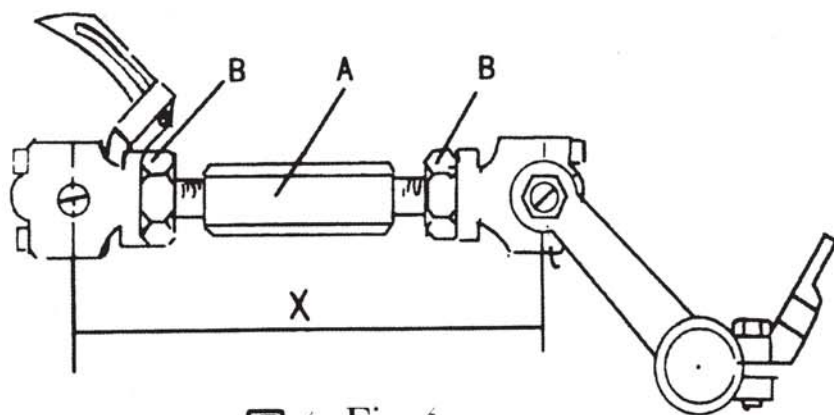
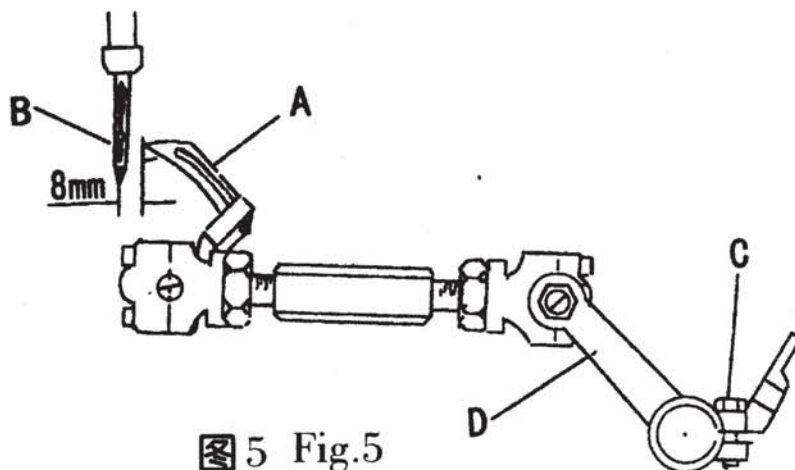
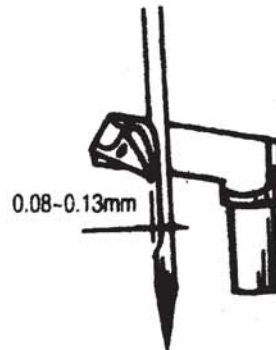
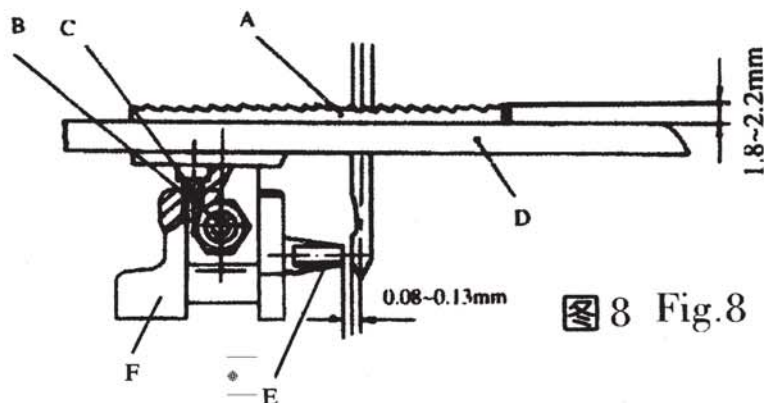

图 4 Fig.4
图 5 Fig.5
图6 Fig.6
图 8 Fig.8
(一) 首先调节连接杆 (图 4, A), 使两球轴承(X)中心线间距为69.8毫米($2\frac{3}{4}$ 英寸), 调节时拧松二个螺母 (B), 顺旋或倒旋连接杆(A)使 (X) 距离符合要求后再锁紧螺母。
(1). First set the looper connecting rod(A, Fig. 4), so the distance (X, Fig. 4) between the centerlines of the two ball joints is 69.8mm($1\frac{3}{4}$ in.). For adjustment loosen the two nuts(B) and turn connecting rod (A) forward or backward as required to obtain specified dimension. Retighten nuts(B). Caution: The left nut has a left hand thread.
(二) 用手顺时针方向旋转皮带轮, 使针杆下移至最低点, 同时弯针退至最右边位置, 此时弯针 (图5, A) 尖和机针(B) 的中心线距离为8毫米 ($5/16$ 英寸)。调节时拧松弯针外曲柄的两只螺钉 (C), 左右转动弯针外曲柄 (D), 调节至需要的尺寸后再拧紧螺钉 (C)。
(2). Rotate the machine pulley clockwise by hand, so that the needle bar moves to the lowest point, at the same time the looper moves back to its farthest position to the right. The distance from the point of the looper (A, Fig. 5) to the centerline of the needle is 8mm($5/16$ in.). For adjustment, loosen two screws(C) in the looper drive lever, rotate looper drive lever(D) left or right as required to obtain specified dimension and retighten screws(C).
(三) 继续转动皮带轮, 使弯针(图5, A)从右向左运动时靠近机针背面的凹形处通过而不得接触, 其间隙为0.08毫米-0.13毫米 (0.003至0.005 英寸) (图6所示)。调节时拧松弯针小偏心摇杆 (图4, C) 的螺钉 (图4, D), 按需要把弯针向前或向后摆动从而转动弯针架轴 (图4, E) 再拧紧螺钉 (D)。
(3) Rotate the machine pulley so that the looper moves from right to left. The looper point should pass as close as possible to the back of the needle without contacting 0.08 - 0.13mm (.003 to .005 in.) (clearance). For adjustment loosen screw(D, Fig. 4) in the looper eccentric fork (C) and turn rocker shaft (E) on the looper rocker with looper forward or backward as required. Retighten screw (D).
缝纫时由于袋边衔接处厚度不一致，往往会使机针刺在缝料厚薄交界处而弯曲或发生故障，而机针挡块（图8E）则可起到保护作用。两者的间隙为0.08~0.13毫米（0.003至0.005英寸），（图8所示）。调整时将皮带轮按工作方向转动，使机针挡块靠近机针，拧松牙架上（图5,F）紧定螺钉（G），移动机针挡块（E）至合适间隙后再拧紧螺钉（G）。
The needle will bend or break when abutting bags made of different thickness of sewing material. And the needle guard (E, Fig. 5) will protect the needle. The clearance between the needle and the needle guard is 0.08 -0.13mm(.003 to .005in.)(Fig,8). For adjustment, rotating pulley in the direction of operating, so that the needle guard moves against the needle. Loosen set screw(G) on feed dog holder(Fig.5), move the needle guard accordingly. Retlghten screw (G).
根据缝料质量与厚度确定送料牙（图8，A）高度。对于布袋、塑料编织袋等薄料，齿面应高出针板（D）上平面约1.8毫米（0.070英寸），麻袋约2.2毫米（0.090英寸），调整时先将送料牙行至最高点，卸下针板和送料牙。按需要的高度调节支承螺针（C）后，重新装上送料牙和针板，并固紧六角螺母（B）。